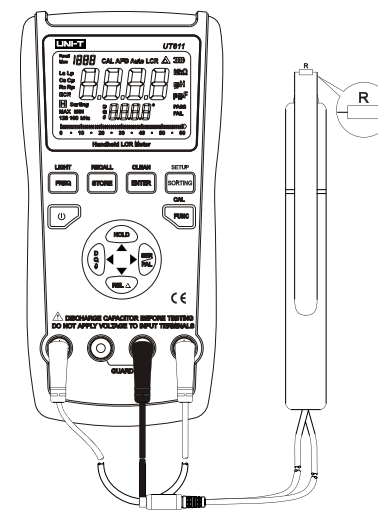

Figure 7
- 3) Connect capacitance to the testing terminal or connect the corresponding accessory to the measured capacitance (As shown in Figure 7).